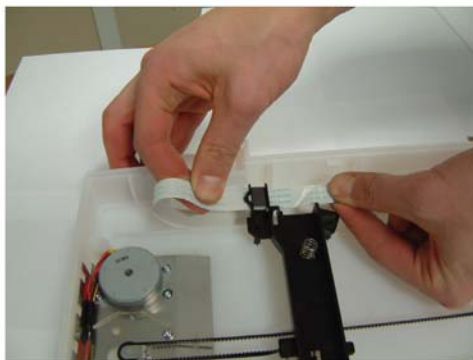

Figure 1
1. Unfold the end of the CIS ribbon cable and remove it from its slot, Figure 1.